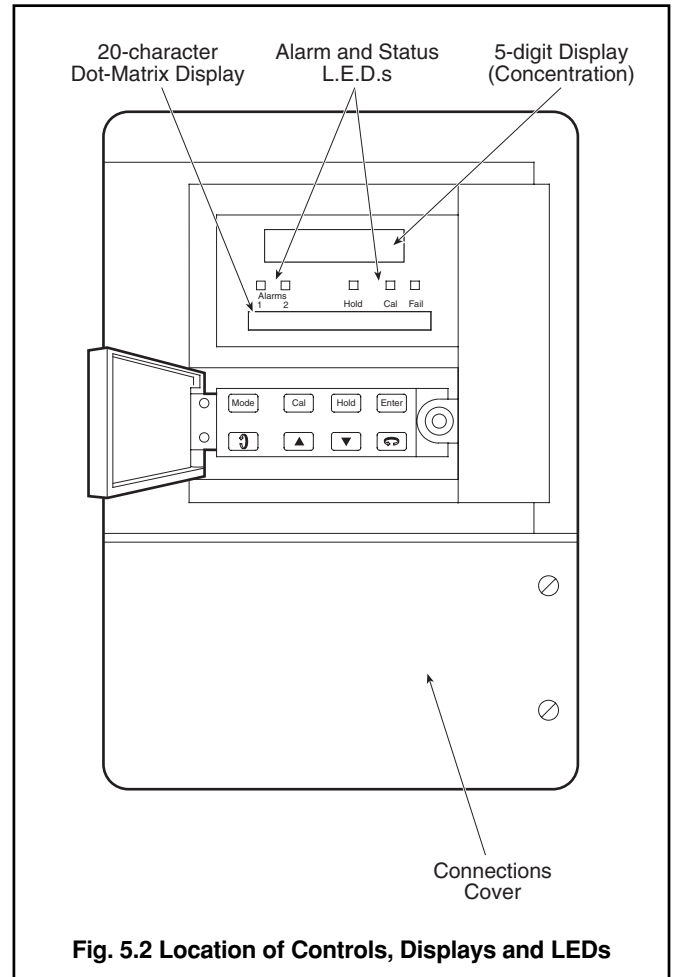

Fig. 5.2 Location of Controls, Displays and LEDs
5.4 Front Panel Controls – Fig. 5.2
5.5 Displays – Fig. 5.2
5.6 L.E.D. Indication – Fig. 5.2